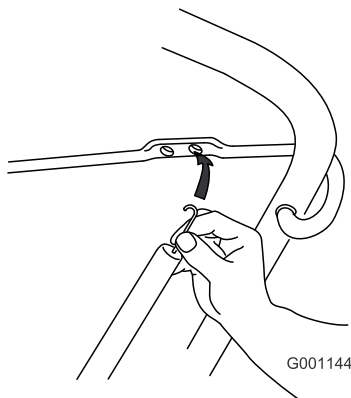

Figure 4
3. Hook the end of the control cable spring into the bottom hole of the control bar (Figure 4).